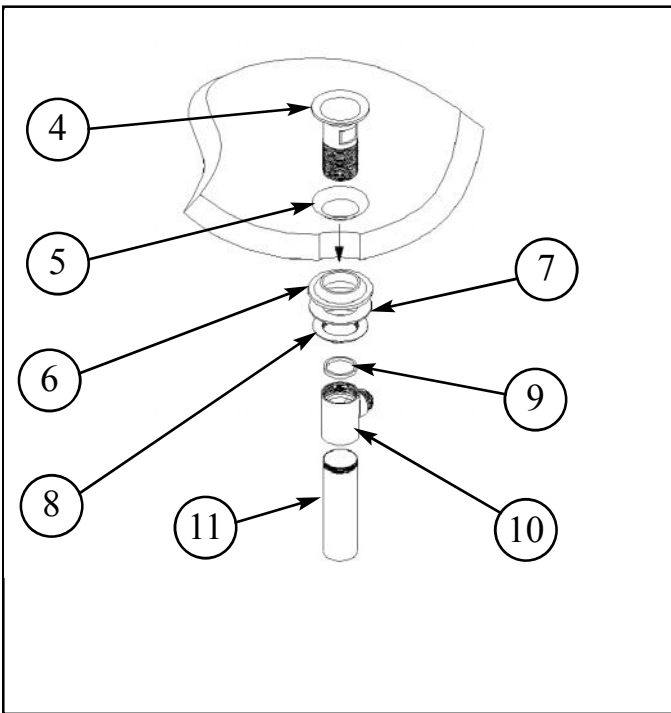

Figure 3
3. Remove drain PLUG (4) from FLANGE (5). Place FLANGE (5) and white WASHER (6) through sink drain opening. (Clear silicone may be used in place of white washer.) From bottom side of sink, place cone shaped rubber WASHER (7) onto FLANGE (5) and slide up against sink bottom. Note: Cone portion of WASHER (7) to face upward. Next slide on clear flat WASHER (8) and secure with flange NUT (9). Place clear WASHER (10) into drain BODY (11) & tighten to FLANGE (5). Apply thread sealant to TAILPIECE (12) and attach to drain BODY (11). Attach TAILPIECE (12) to p-trap drain (not included). See Figure 3.